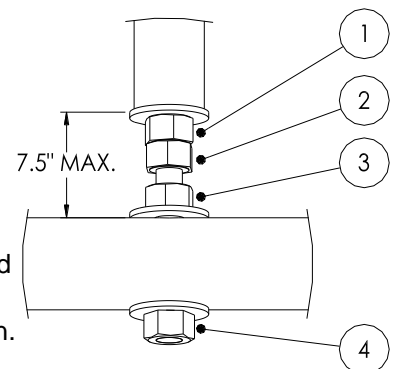

Figure 3.2 – Spring Tension Adjustment
- Nuts 3 and 4 (see Figure 3.2) should remain tight at all times.
- Do not exceed 7.5" (as shown in Figure 3.2) when adjusting spring tension. This could create a dangerous condition.